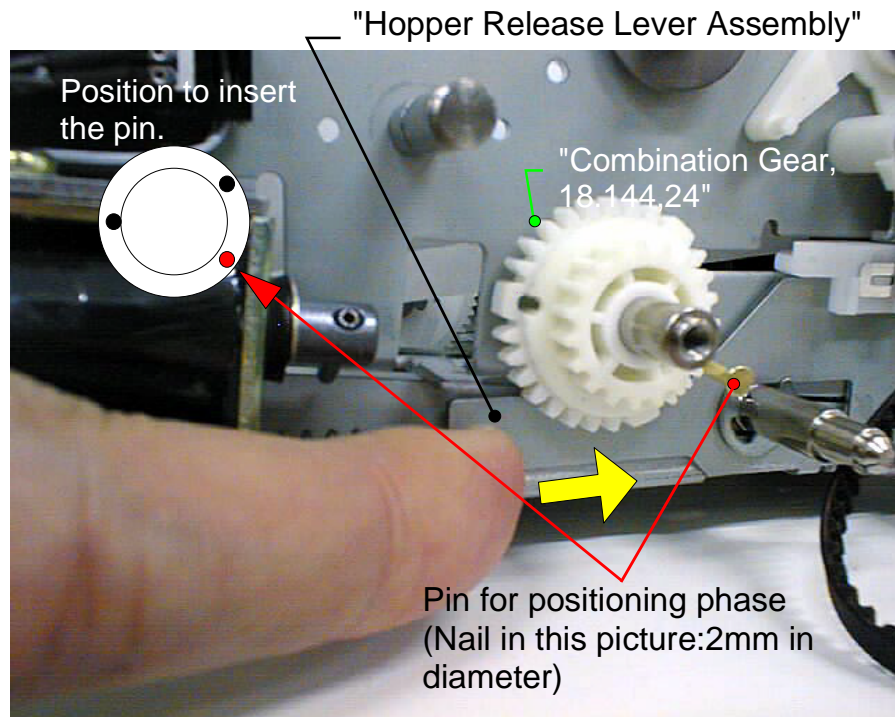

Figure 4-93. Adjusting Alignment for "Combination Gear,18.144,24"
- Pressing "Hopper Release Lever Assembly" to right side, rotate 3 holes on the "Combination Gear,18.144,24" until they become the condition shown in Figure4-93, and insert the positioning pin for alignment into the red marked hole(see figure) and pierced it to the hole of the mechanism. (Refer to Figure4-93)